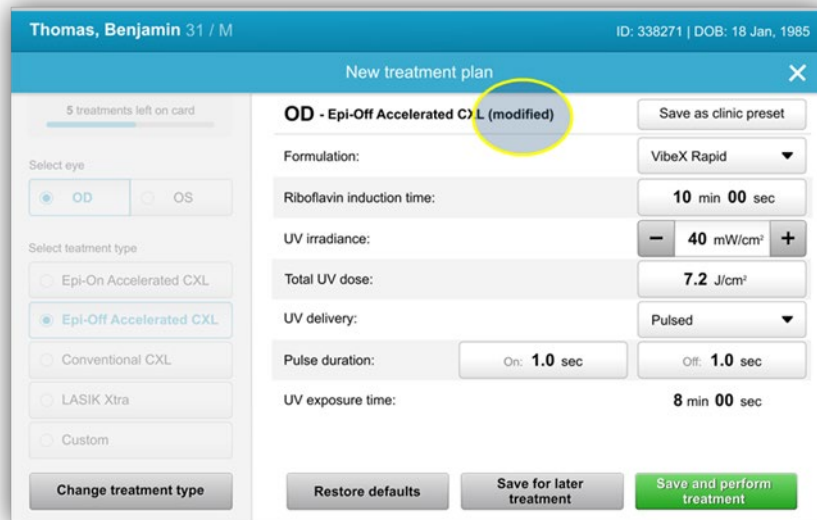

Figure 3-8. Adjusted Treatment Plan
- If parameters were adjusted within any of the four presets, “Modified” will be displayed next to chosen treatment plan, as shown in Figure 3-8.